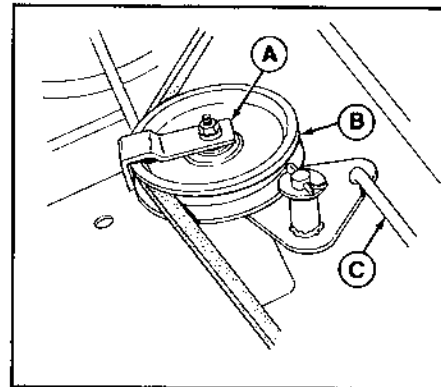

Figure 21.
5. Loosen the belt guide (A, figure 21) from the idler pulley (B).